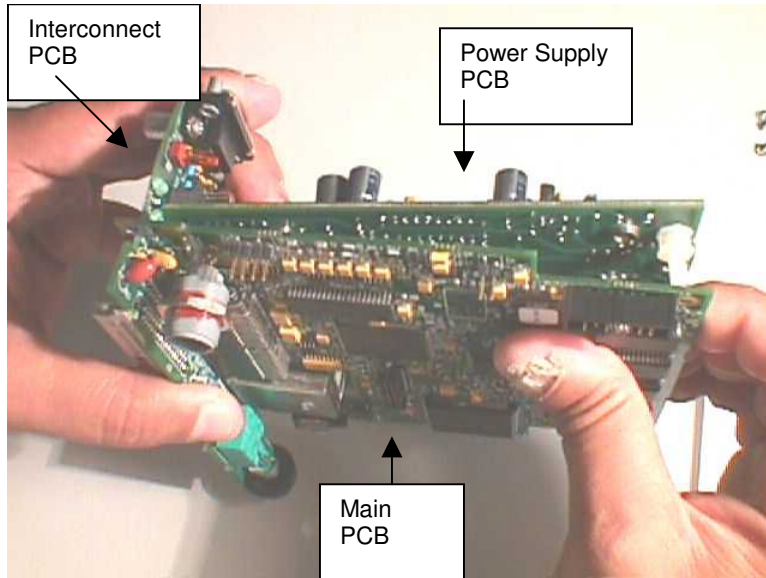

Figure 7-11 Gently pull and flex to separate PCBs
5. Holding Interconnect PCB in one hand and upper end of Main PCB in the other, gently flex and pull to separate PCBs. BE CAREFUL NOT TO BEND PINS ON INTERCONNECT PCB. (See Figure 7-11).